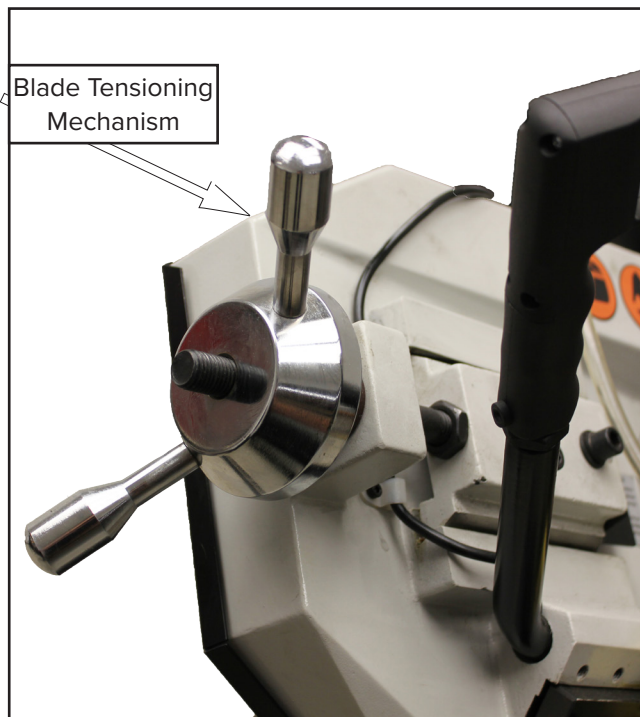

Figure 9: Blade Tensioning Mechanism.
- Loosen the blade tensioning mechanism by turning the hand wheel see Figure 9.
- Assemble the mobile blade-guide end first, the fly wheel guard second, then fasten it with the respective knobs. Check the safety microswitch (M) is engaged and activated otherwise the machine will not start.